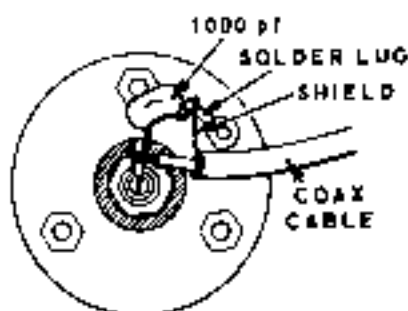
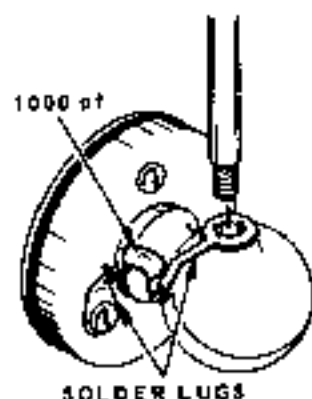

Figure 4-3
Figure 4-4
**IMPORTANT NOTE:** To make a loaded whip antenna present a 50  $\Omega$  load to match the coaxial cable on 75 meters, a capacitor usually must be connected between the base of the antenna and ground. This can be done inside the automobile body as shown in Figure 4-3, or between the antenna and one of the mounting screws, using two solder lugs, as shown in Figure 4-4. A 1000 pf mica capacitor, which is supplied with this kit for this purpose, can be used with most antennas; but a capacitor of a different value, between 300 pf and 1500 pf, may be required for proper operation of the antenna. The antenna will require retuning when the capacitor is installed.